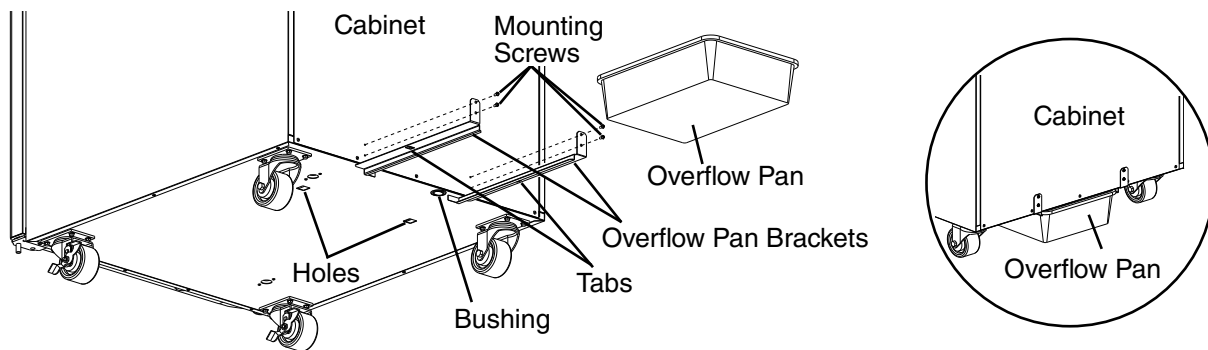

Fig. 2
- 1) Attach the overflow pan brackets by engaging the tabs on the brackets through the holes in the bottom of the unit and securing with the 4 mounting screws provided. See Fig. 2.